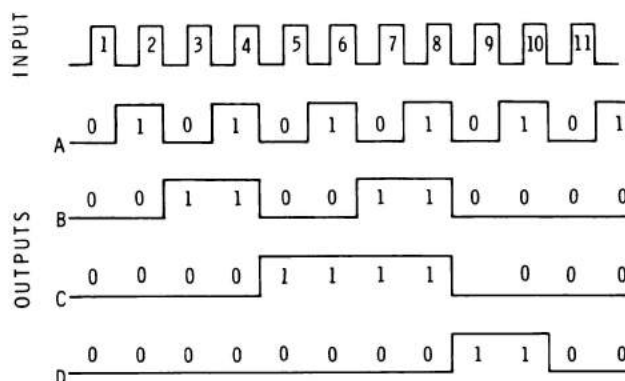

Figure 5-41
The waveforms shown in Figure 5-41 illustrate the operation of the 8421 BCD counter. The count sequence is identical to that of the standard four-bit pure binary counter discussed earlier for the first eight input pulses. The operations that occur during the 9th and 10th pulses are unique to the BCD counter.
If count pulses are now applied, the states of the flip-flops will change as indicated in Figure 5-41. The count ripples through the first three flip-flops in sequence as in the standard 4-bit binary counter. However, consider the action of the counter upon the application of the 8th input pulse. With flip-flops A, B, and C set and D reset, the B and C outputs are high, thereby enabling the AND gate and the J input to the D flip-flop. This means that, upon the application of the next count input, all flip-flops will change state. The A, B, and C flip-flops will be reset while the D flip-flop is set. The counter state changes from 0111 to 1000 when the trailing edge of the 8th input pulse occurs.
When the 10th input pulse occurs, the A flip-flop will toggle and reset. The B flip-flop will not be affected at this time since its J input is low. No state change occurs in the C flip-flop since the B flip-flop remains reset. The changing of the state of the A flip-flop, however, does cause the D flip-flop to reset. With its J input binary 0 and K input binary 1, this flip-flop will reset when the A flip-flop changes state. This 10th input pulse therefore causes all flip-flops to become reset. As you can see by the waveforms in Figure 5-41, the counter recycles from the 1001 (9) state to the 0000 state on the 10th input pulse.